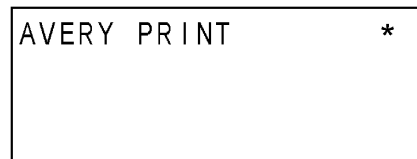

Fig. 39
- (7) Press the "RET" key while the LCD displays as shown in Fig.38. The display shifts to the Avery Print Mode as shown in Fig.39.